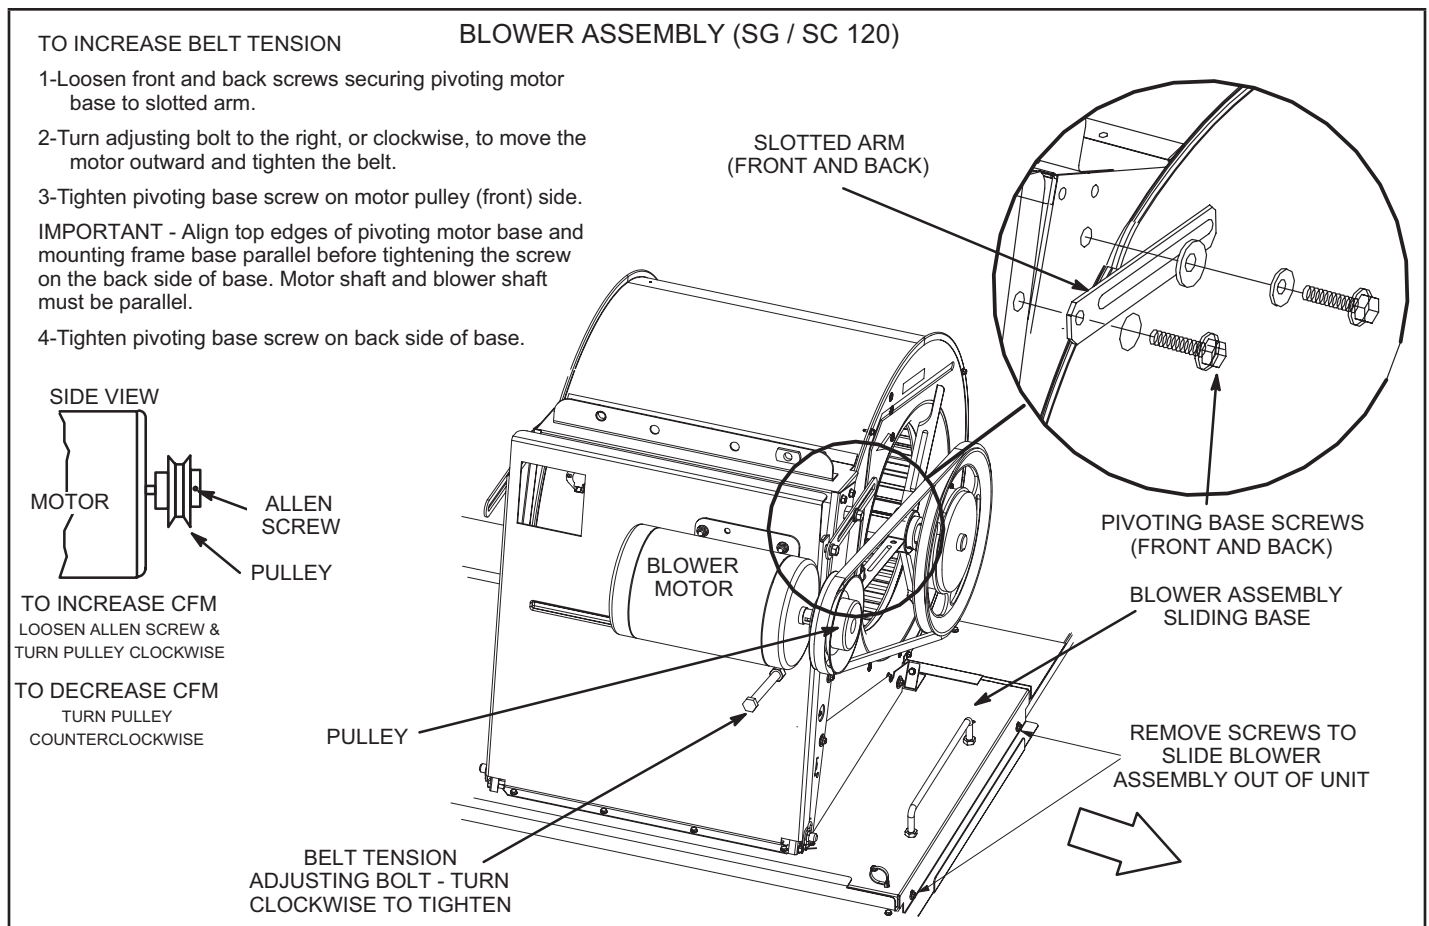
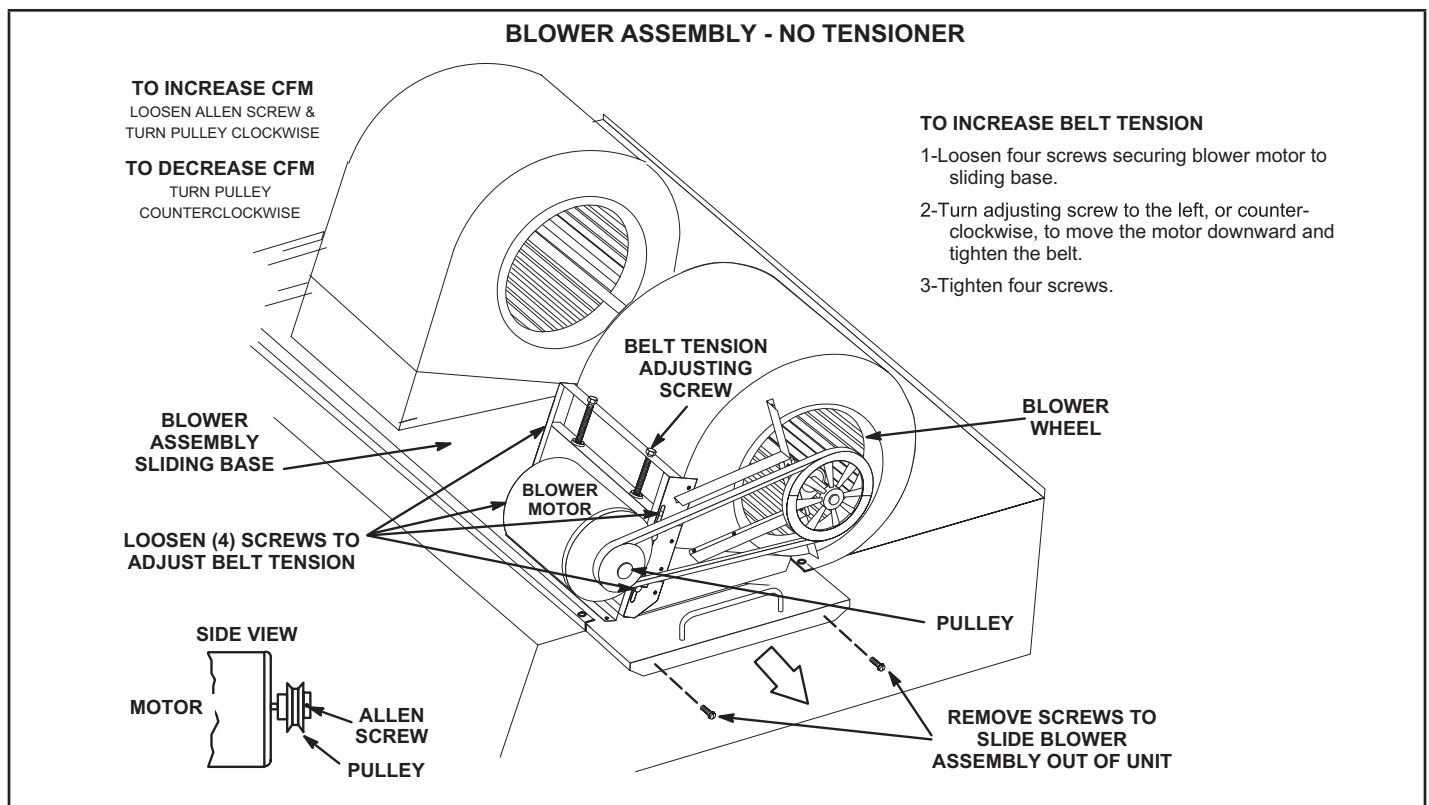
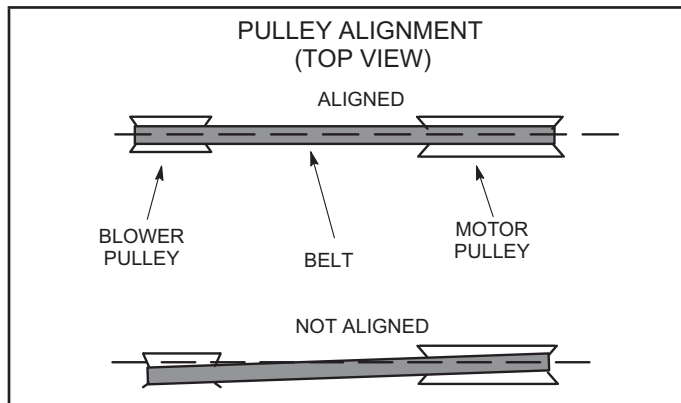

FIGURE 19
FIGURE 20
FIGURE 21
The blower compartment is located between the evaporator coil and the compressor / control section on the opposite side of the condenser coil. The blower assembly is accessed by disconnecting the blower motor wiring (and all other plugs) and removing the screws on either side of the sliding base. The base pulls out as shown in FIGURE 19 and FIGURE 20.
- 4 - The blower RPM can be adjusted at the motor pulley. Loosen Allen screw and turn adjustable pulley clockwise to increase CFM. Turn counterclockwise to decrease CFM. See FIGURE 19 or FIGURE 20. Do not exceed minimum and maximum number of pulley turns as shown in TABLE 3.
Maximum life and wear can be obtained from belts only if proper pulley alignment and belt tension are maintained. Tension new belt after a 24-48 hour period of operation. This will allow belt to stretch and seat to grooves. Make sure blower and motor pulley are aligned as shown in FIGURE 21. See FIGURE 19 or FIGURE 20 to adjust belt tension.